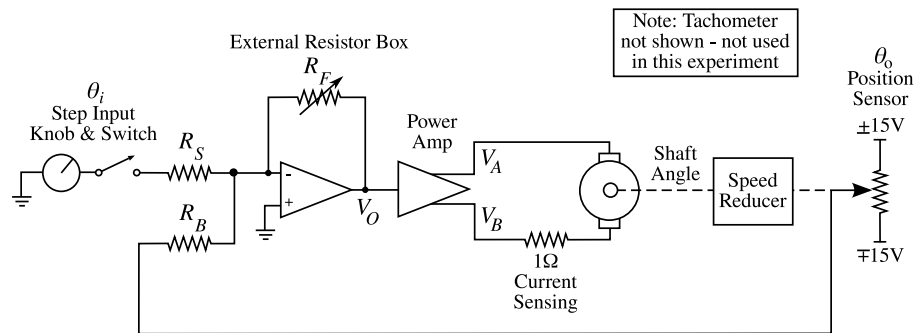

Figure 2.1: Motomatic System Diagram
The position control system configuration for this experiment is shown in Figure 2.1. In order to simulate the closed-loop system, you must first measure the characteristics of the following individual components:
- (1) **Input Signal** Turn the step input knob all the way counterclockwise. Set the test meter selection switch to position 3, **step input**; this allows you to measure the step input voltage. *Hint: You can connect a voltmeter or oscilloscope to the banana jacks just below the meter for a more precise measurement.* Set the toggle switch above the step input knob to the (+) setting. Now when you turn the knob through a given angle, you control the voltage from the step input source. Turning the switch on and off is what produces the “step”, or nearly instant change in voltage. Record the voltage at several angles (for example 0, 90, 180, and 270 degrees) from the zero voltage point, then plot the results and find the relationship between step voltage and angle. The value should be in volts per radian.
- (2) **Op-Amp Summing Circuit** Rather than measuring the op-amp gain, we can use the values of its resistors to compute the gain; for this type of circuit, such a computation is generally accurate to within 1–5%. Use the diagram and formula in Section 2.1.1 to compute the op-amp’s gain. Note that the gain may be a negative number (meaning if the input voltage is positive, the output is negative); it may also be less than one.
- (3) **Power Amplifier** The power amplifier’s output voltage is some constant number times its input voltage. Look at Figure 2.1 to see that the power amplifier’s input is the op-amp’s output. Connect the power amplifier to the op-amp, and make sure that the feedback loop is disconnected. Also disconnect the motor leads for this measurement. (This does *not* mean to disconnect the op-amp resistor R_F ; it must always be connected.) Also disconnect the motor leads for this measurement. Measure the input and output voltages and plot a graph of output *vs.* input. Determine the power amplifier’s voltage gain K_A , in volts per volt. Is this a positive or negative gain?
- (4) **Motor** The motor will be modeled as a first-order transfer function,
- (9) **Closed-Loop Transient Response Tests** Connect the Motomatic as a closed-loop position controller. The connections are shown schematically in Figure 2.1. First connect the feedback path so that it sends a position feedback signal to the summing amplifier. Note the toggle switch marked “Feedback.” This switch turns the feedback signal on and off and controls the signal’s polarity. When the switch is set to (+), the $\pm 15\text{V}$ voltages will be connected to the position sensing pot in such a way that the feedback voltage increases as the shaft angle increases. We will use the system with the switch set to (-), which connects the $\pm 15\text{V}$ voltages the other way – providing negative feedback which produces the correct error signal for controlling the shaft’s position. Do *not* connect the velocity feedback signal in this lab.